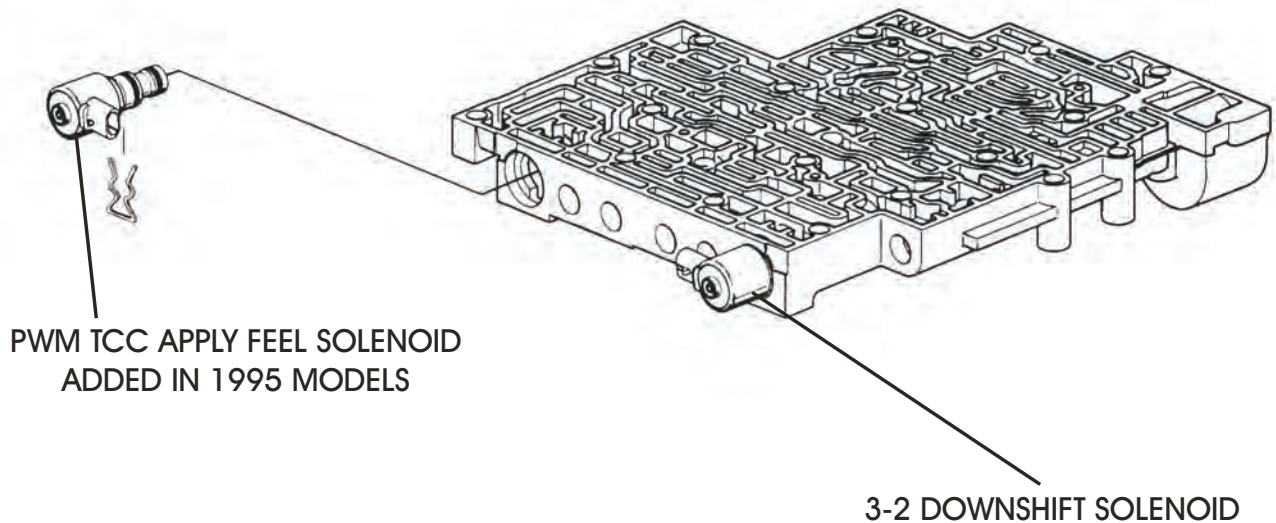

Figure 1
- (1) VALVE BODY CASTING - 1995 models are now machined to accept the added TCC PWM Solenoid, as shown in Figure 1. The added TCC PWM Solenoid is exactly the same and will interchange with the 3-2 downshift solenoid (See Figure 1).